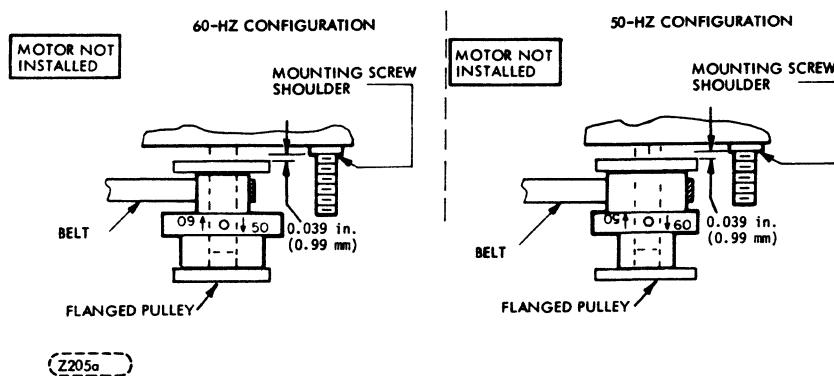

FIGURE 6-11. DRIVE-PULLEY REVERSAL
- f. Position pulley allowing tolerance of 0.039 in. (0.99 mm) \pm 0.10 in. (0.254 mm) between shoulder of motor mounting screws and pulley (Figure 6-11).